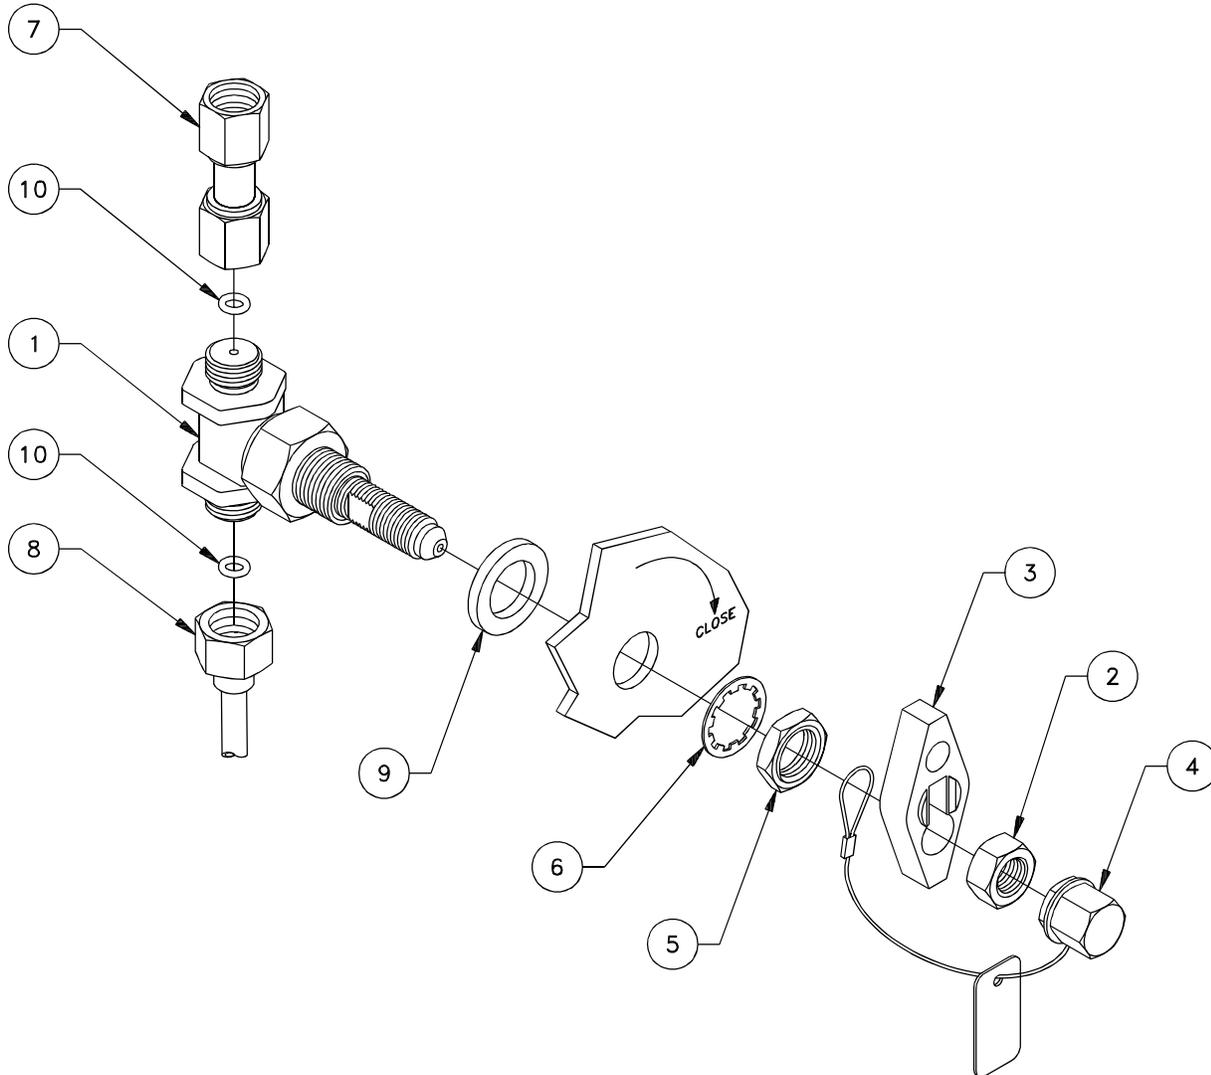

Figure 6-6. HP Gauge Isolation Valve (AHP-V206) or LP Gauge Isolation Valve (ALP-V207)
6.5.2.7 HP Gauge Isolation Valve (AHP-V206) or LP Gauge Isolation Valve (ALP-V207) Removal and Replacement (Figure 6-6).